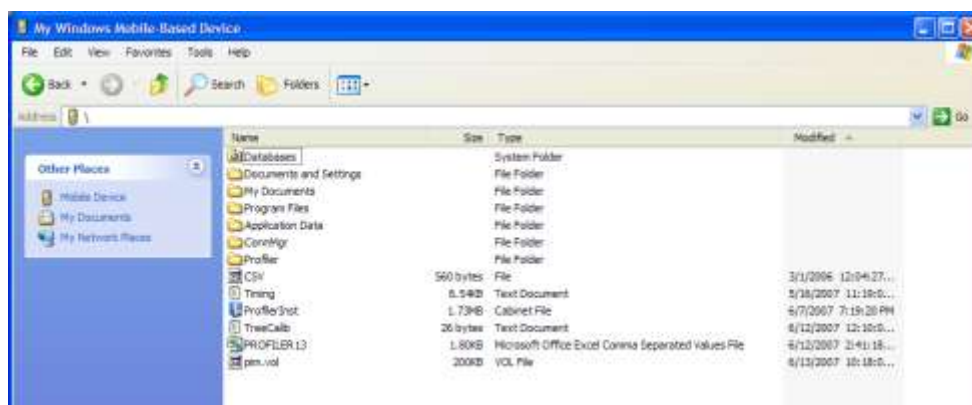

Figure 82: Mobile-device root directory window.
4. The user should now select the **My Windows Mobile-Based Device** icon. This will access the PDA Root directory (Figure 82).